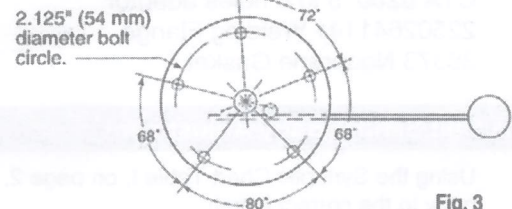

Fig. 3
2. Refer to Fig. 3, slide the rubber gasket up to the bottom of the fuel sender flange.